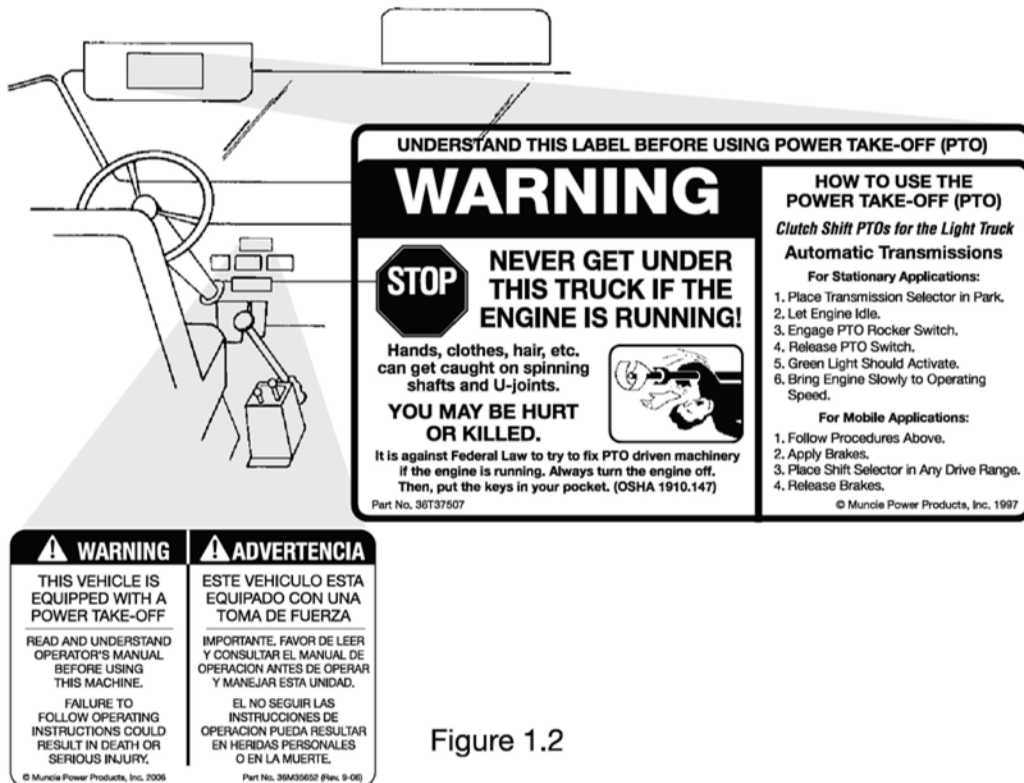

Figure 1.2
- The 2" x 3" PTO Equipped Caution Label is to be placed within the cab of the vehicle and in easy view of the vehicle operator. It should be located near the PTO control, when the control is installed in the vehicle dash (See Figure 1.2). This label directs the operator to read the PTO operating instructions on the "Visor Label". The Visor Label 3-1/2" x 6" is to be placed on the visor on the operator's side of the vehicle (See Figure 1.2).